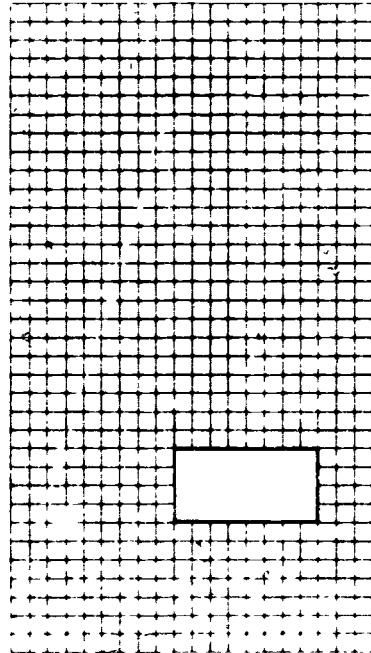

Fig. 11.3
1. Complete the graph in Fig. 11.3 by adding the given information.